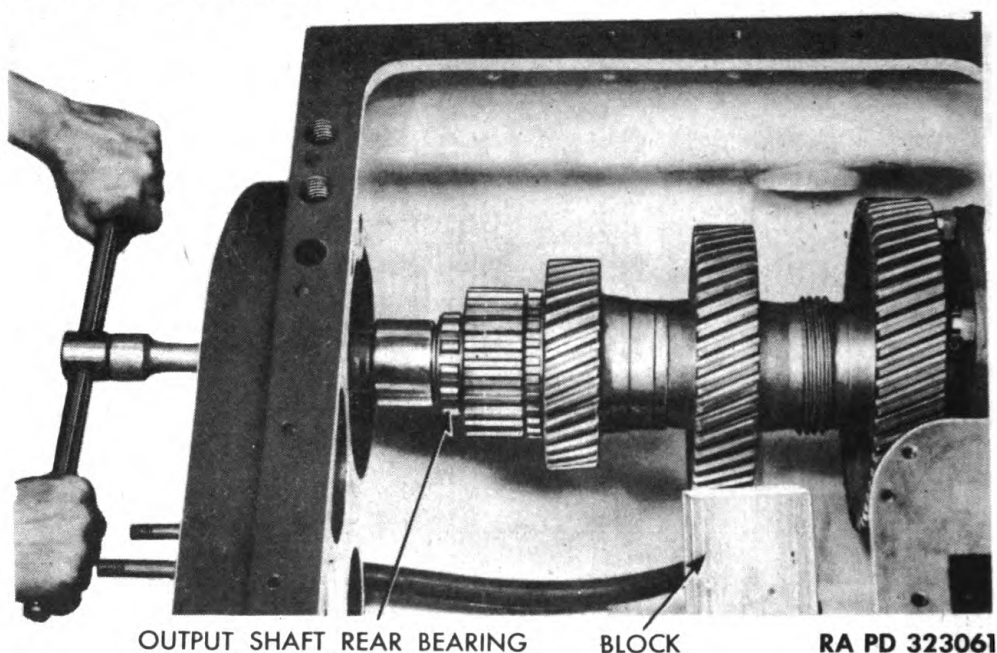

Figure 60 — Tightening Output Shaft Rear Bearing Nut
(5) Coat third speed gear bearing surface and fourth speed gear bearing surface with engine oil. Install third speed gear and fourth speed gear. Slide second and third speed gear spacer, and third and fourth speed gear assembly onto shaft. Install rear bearing spacer. Using bearing driver (41-R-2383-785), drive rear roller bearing onto shaft (fig. 59). Install nut lock and rear bearing nut. Securely tighten nut (fig. 60), and bend washer over one hexagon face of nut to lock it. Install third and fourth speed clutch. *NOTE: Two of the three gear clutches used in the transmission are identical. The third and fourth speed gear clutch has teeth the full width of the clutch, whereas the first and second speed gear clutch and the winch gear clutch have a groove cut in the teeth.*